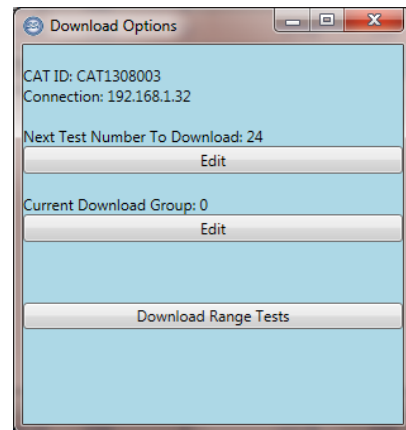

Figure 54 - Download Options
**Download Options.** This option (Figure 54) provides several parameters for downloading test results from the CAT-100 unit.